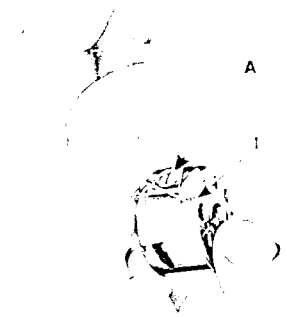

Fig. 11
Then pull the thread into the slot (1, Fig. 11) in the edge of the bobbin case, draw the thread under the tension spring and into the delivery eye (2) at the end of the tension spring, as shown in Fig. 12.
The tension on the bobbin thread is regulated by the screw (A, Fig. 11) in the bobbin case tension spring. To increase the tension, turn this screw over to the right. To decrease the tension, turn the screw over to the left. The tension on the bobbin thread should be light.